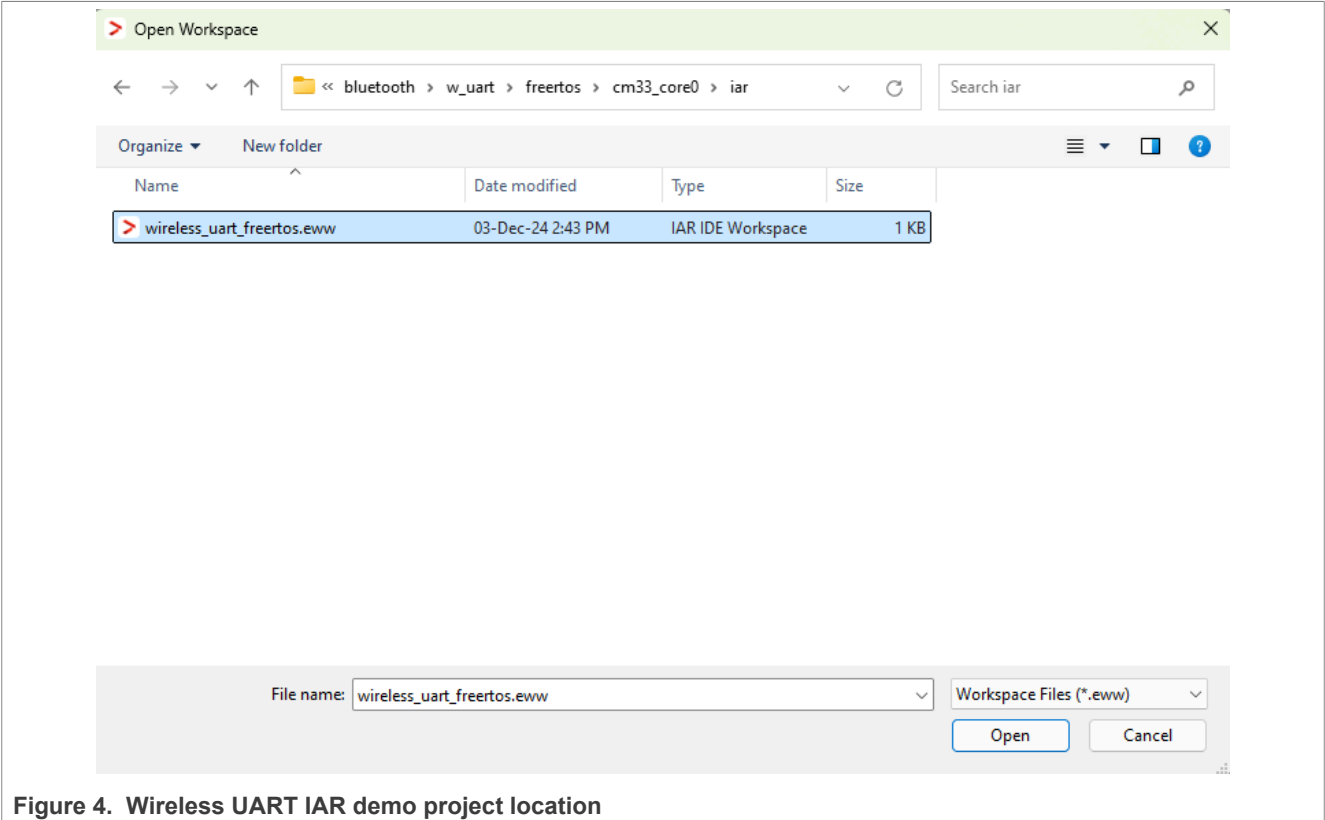

Figure 4. Wireless UART IAR demo project location
2. Open the IAR workspace file (*.eww file format) highlighted file in Figure 4.